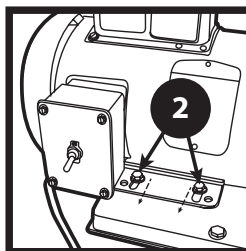

FIGURE 11A & B
- Re-tension by loosening the four bolts that secure the motor to the base (Figure 11A & B) and slide the motor backward. Do not over tighten the belt. Doing so will shorten the life of the machine bearings. Tighten the four bolts.